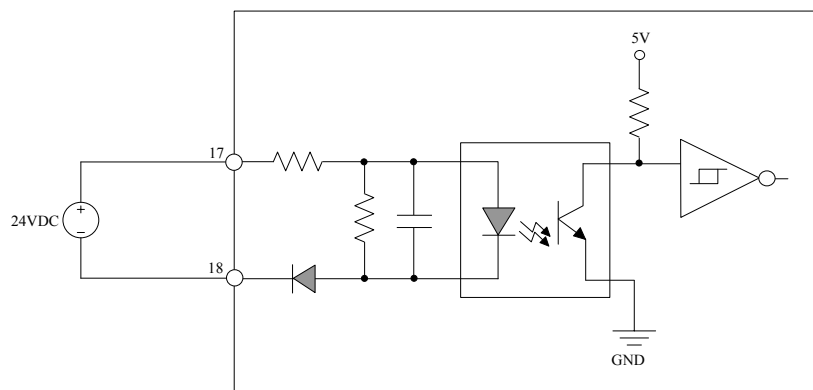

Figure 11.5: LK650 Field Power Loss Detection Circuit
- As shown in Figure 11.5, terminal “17” connects to the positive end of the field power supply while terminal “18” connects to its negative end. LK650 conducts the power loss detection by checking the changes of input voltage between the two terminals. In case of any failure, the failure status will be reported to the controller as the diagnosis data.